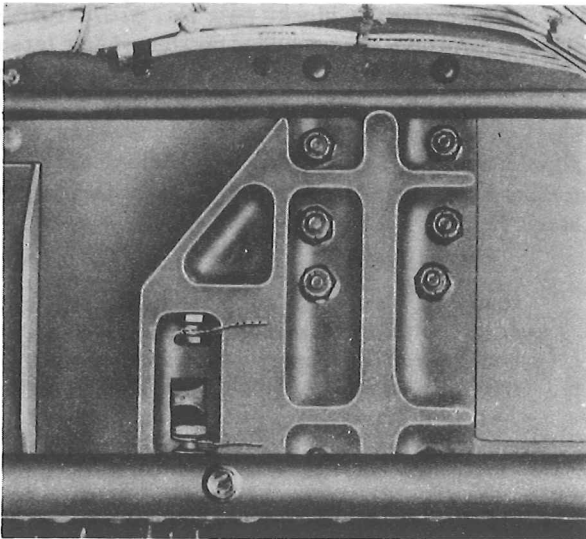

Figure 7-30. Collective Pitch Control Stops
d. Screw all secondary stops all way in to give full travel to control sticks. (See figures 7-30, 7-31, and 7-32.)
1. Unlock collective pitch control, move it to high pitch position until power piston in collective pitch auxiliary servo unit bottoms, and lock collective pitch control in place. Check at main rotor blade attachment lugs with a protractor, Guardian Electric Mfg. Co. part No. 36-D-2844, or rigging tool, part No. S1670-10564-3, for a high collective pitch control reading of $+20 \pm 1/2$ degrees with blade control rod assembly directly over left lateral main rotor servo unit. Set both high pitch stops (figure 7-30) in cabin for reading with a 0.010-inch clearance and secure with lock wire.
y. With collective pitch stick in full low pitch position, auxiliary servo in manual, and collective power piston bottomed against its internal stop in auxiliary servo, set low pitch mechanical stops (figure 7-30) to have a 0.090 to 0.100-inch clearance.